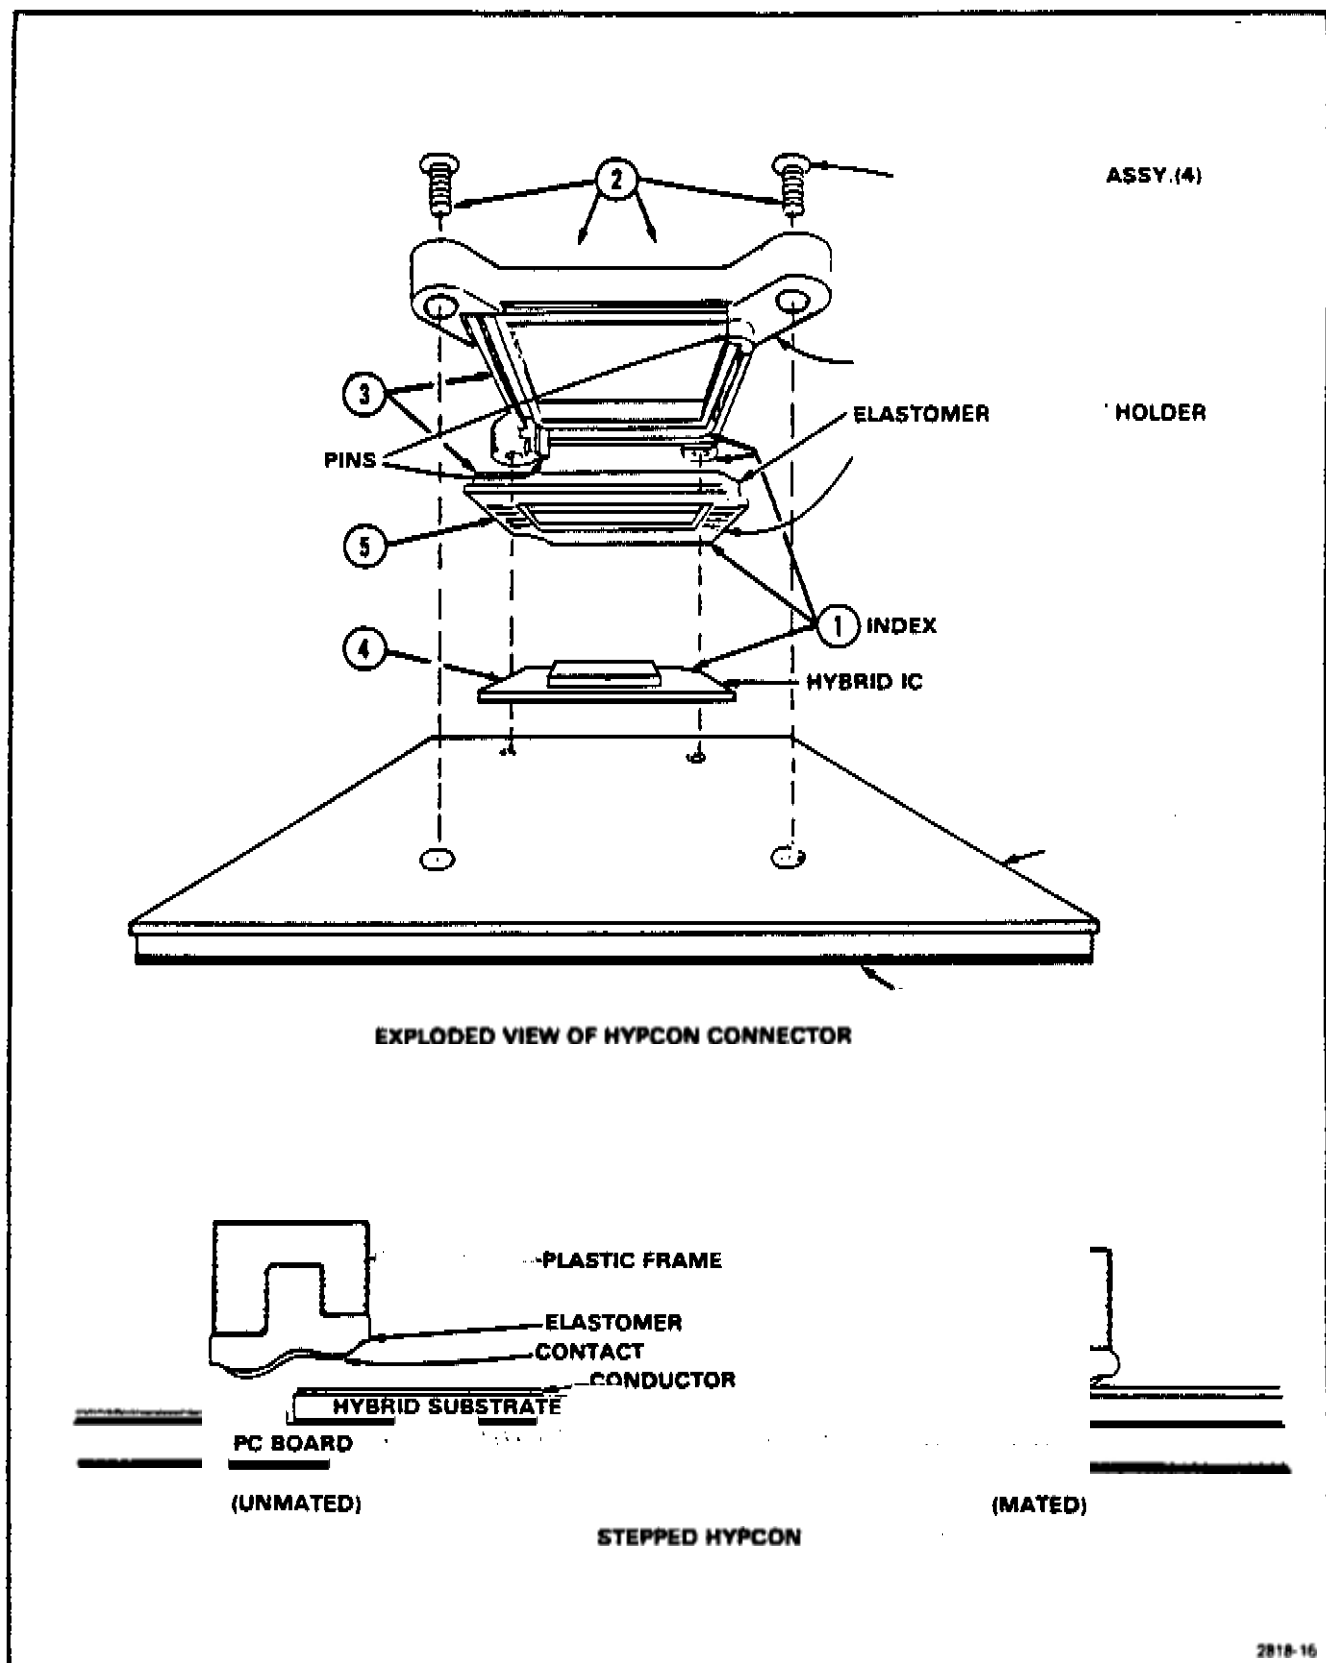

Fig. 5-2 Hypcon Connector (exploded view).
The Hypcon Connector (hybrid-printed connector) is precision-made and designed to provide a low loss electrical and a thermally efficient connection between the printed circuit board and hybrid integrated circuit (see Fig. 5-2).
*Because of close tolerances involved, special care must be taken to assure correct index alignment of each Hypcon Connector part during reassembly. Failure to do so can result in a cracked hybrid substrate. See Fig. 5-2 for index locations.*